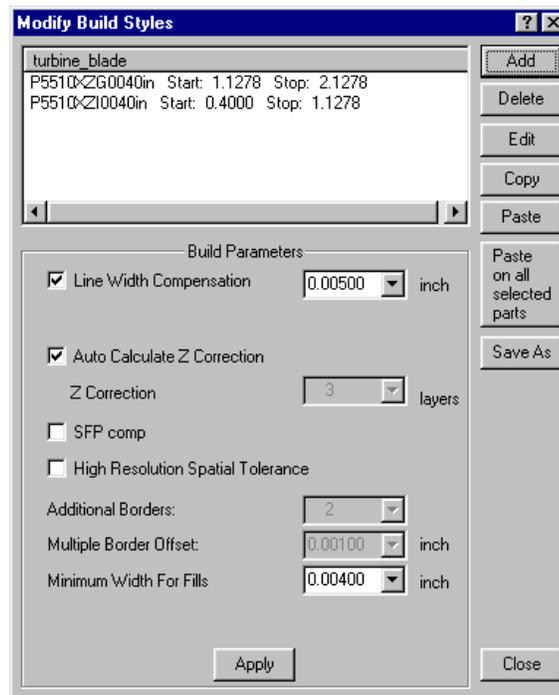

Figure 70. Modify Build Styles Dialog with Added Build Style
5. Click the...  button to add the selected build style to the "Modify Build Styles" dialog (Figure 70).